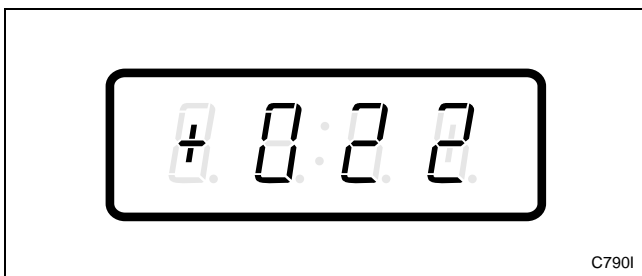

Figure 39
3. Press the DELICATES (+) or the COLD (-) keypad to scroll through the programmable options until “+022” appears in the VFD. Refer to *Figure 39*.